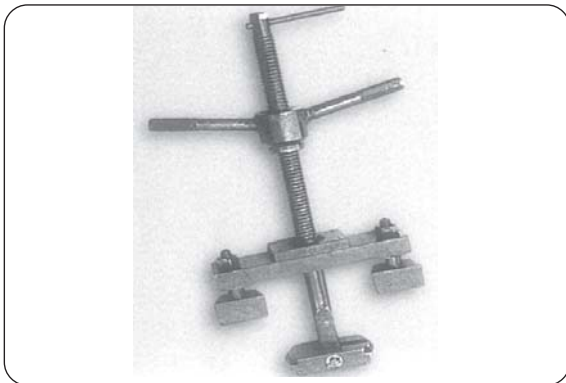

Fig. 13
- b) Using a suitable sleeve puller withdraw the cylinder sleeves (fig. 13).
MST-H1-EN-1 (fig.13) as follows :